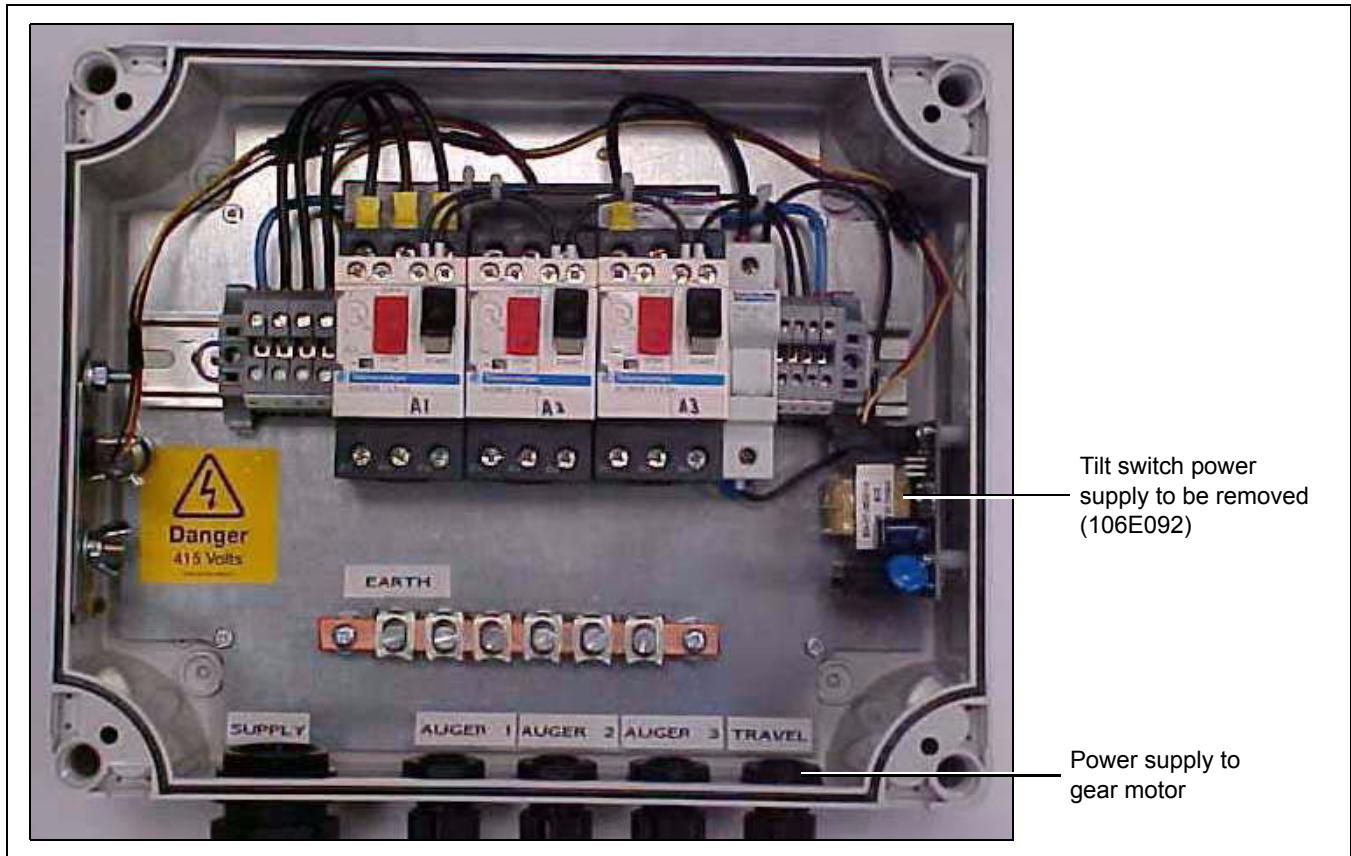

Figure 3
7. Within the beam box, disconnect the tilt switch and power supply by disconnecting the wires labeled in Figure 3.
13. Connect the wires back to the terminal block as they were previously. (See Figure 3.)